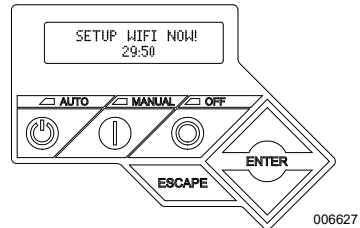

Figure 3-8. Wi-Fi Setup Screen
3. See Figure 3-8. The controller will display **SETUP WIFI NOW!** with a 30-minute timer to connect Wi-Fi. Return to Wi-Fi Setup process.